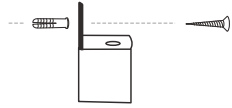

Figure 1
1. Securely attach wall bracket to flat surface using enclosed mollies and screws at desired height. *(It is advised to use a level to ensure proper mounting).* (Figure 1)